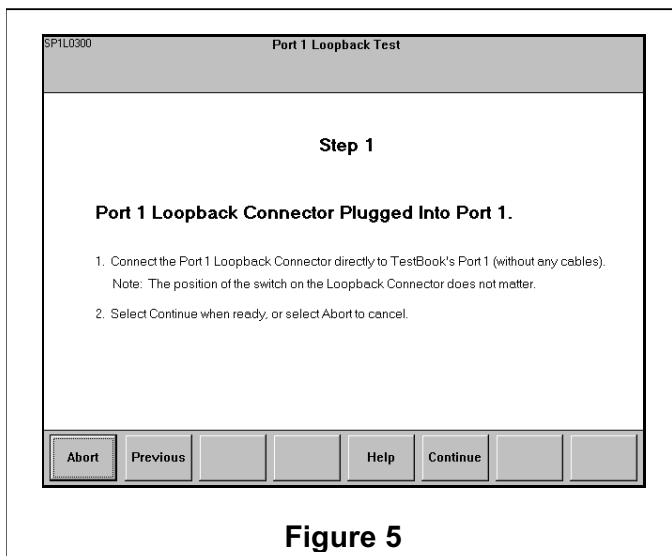

Figure 5
1. The screen shown in Figure 5 will appear. It marks the first Step of the test. The operator is instructed to: